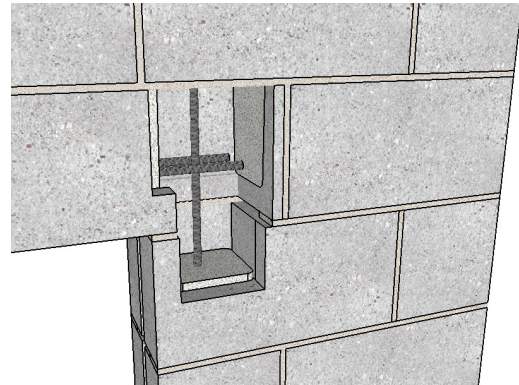

Figure 3: Masonry lintel intersection masonry jamb
- D) Masonry lintels create an integral joint with vertical jamb reinforcement. This leads to a more robust design with many design benefits, schedule reduction, and proves to be less expensive. See Figure 3 below.
- F) Perhaps the most compelling reason to use masonry or specialty precast lintels is due to the ability to use arching action, which allows the design load to be much smaller. Arching action, discussed later in this article, requires the lintel to be built integrally with the jamb with no control joints (CJ) at the openings. Steel lintels often require CJs at the end of the lintel due to differential movement, which prevents arching action and therefore requires much more load for the design.